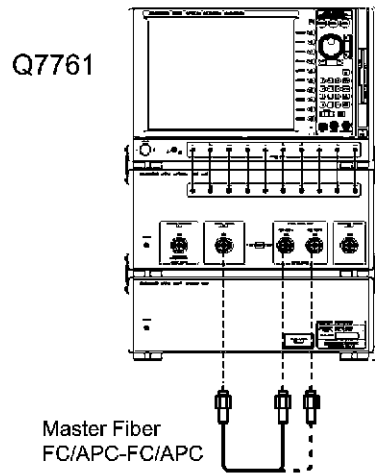

Figure 2-4 Connection-1 for Magnitude Characteristic Linearity (POWER Measurement Mode) Test
1. As shown in Figure 2-4, connect the "OPTICAL SIGNAL OUTPUT" of this instrument with "TEST PORT 1", using the FC/APC-FC/APC optical fiber.